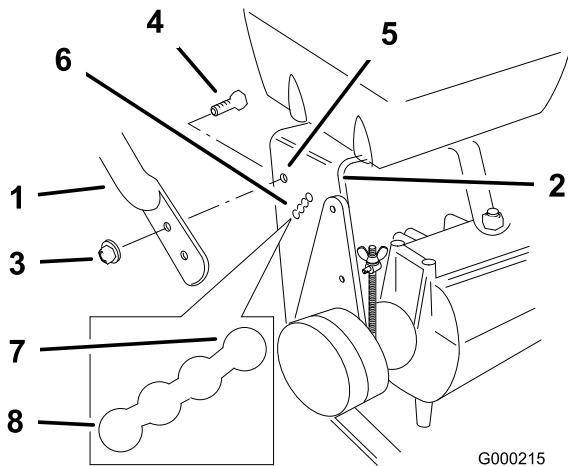

Figure 16
- Loosen the upper flange bolts (3/8 x 1 inch) and flange nut securing handle to rear frame (Figure 16).
- Remove the lower flange bolts (3/8 x 1 inch) and flange nuts securing handle to rear frame (Figure 16).